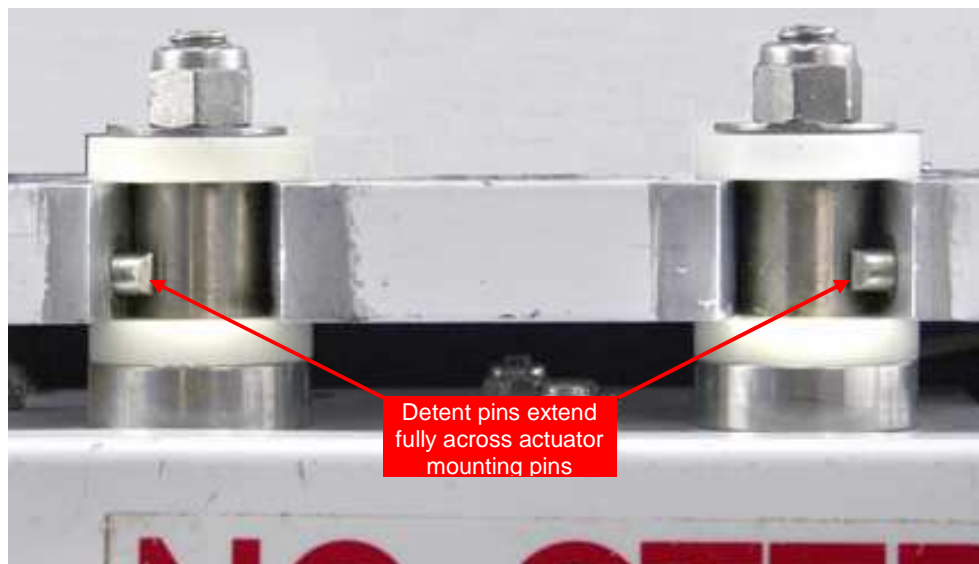

Figure 24. Actuator correctly mounted
7. Repeat step 5 for the other pin. The correctly mounted actuator is shown in Figure 24.